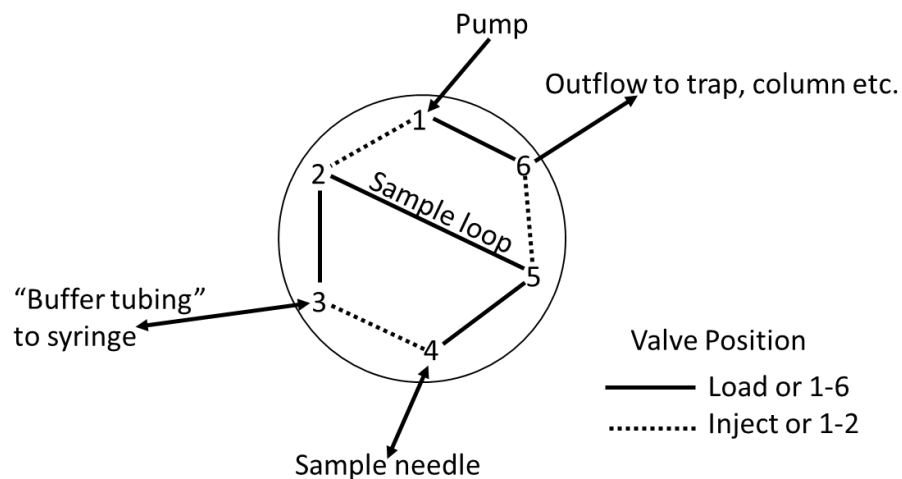

Figure D-12 Autosampler Plumbing Diagram
6. Secure the free end of the sample loop into port 5 of the 6-port valve and tighten the fitting (refer to Figure D-12).
A plumbing diagram for the basic autosampler configuration is shown in Figure D-12.